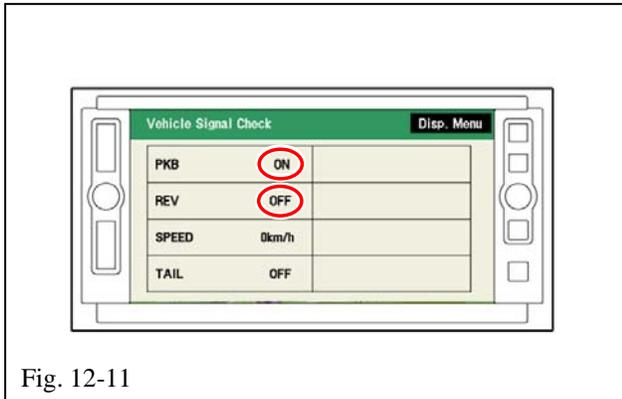

Fig. 12-11
- (i) Perform the following confirmation tests by referring to the indications circled on the screen (Fig. 12-11).
- (1) When the PKB is engaged →ON
- (2) When the PKB is disengaged →OFF
- (3) When the shift lever is engaged in the R position →ON
- (4) When the shift lever is engaged in any position other than R →OFF